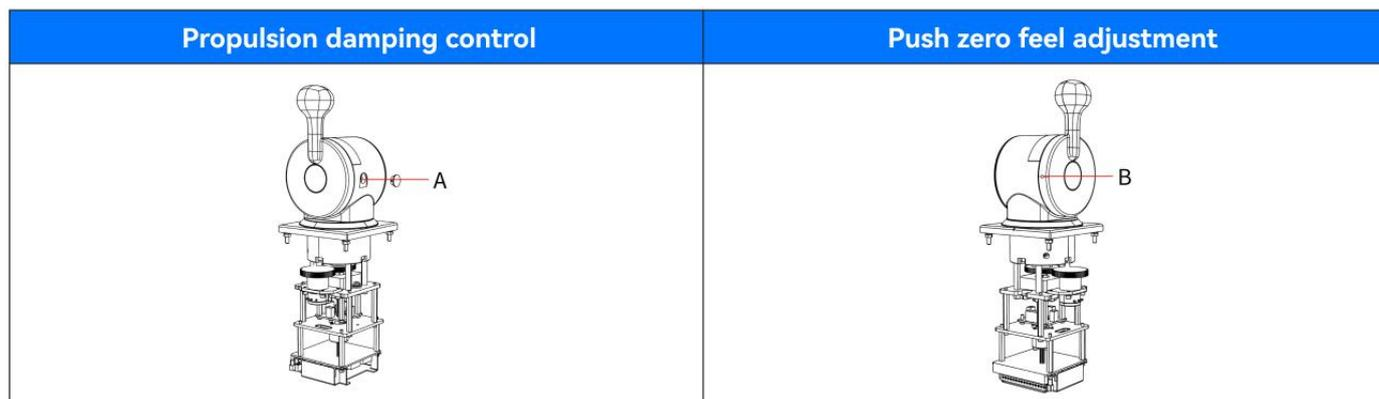

Figure 4.1
1. As shown in Figure 4.1, open the silicone plug and rotate the hex wrench at A to adjust the size of the propulsion damping.